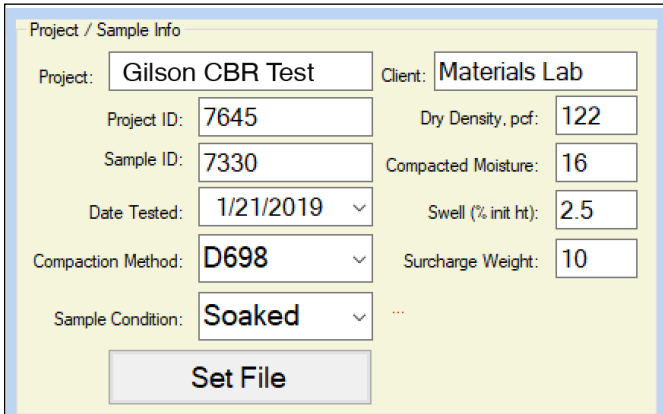

Figure 5: Project/Sample Info tile
2. Enter the Project/Sample Info in the fields at the top right of the window (Figure 5). These values will be included in the final test report. Once entered, click **Set File** to designate a file location for the test data.